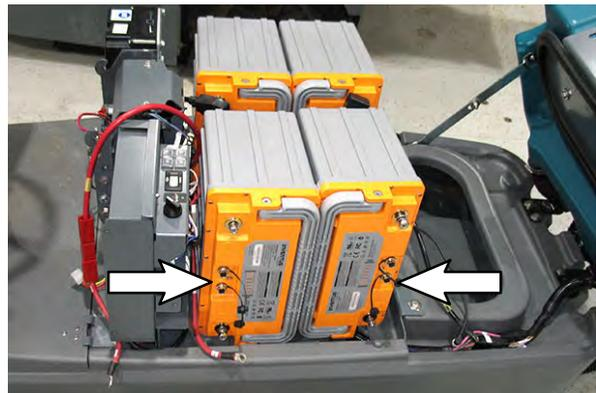

FIG. 40
34. Install the two remaining lithium batteries (1) into the battery compartment. (Fig. 40)